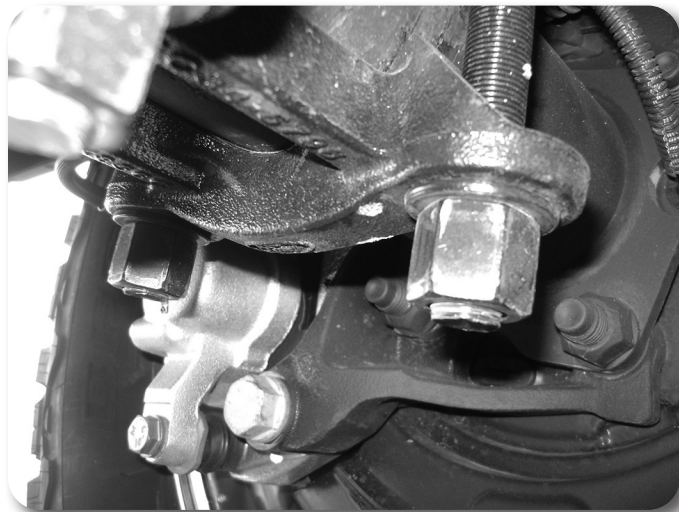

Figure 18
8. Raise the axle to engage the block spring alignment pins. Fasten the entire assembly with the provided u-bolts, washers, and nuts. Snug but do not torque the u-bolts at this time. **Figure 18**